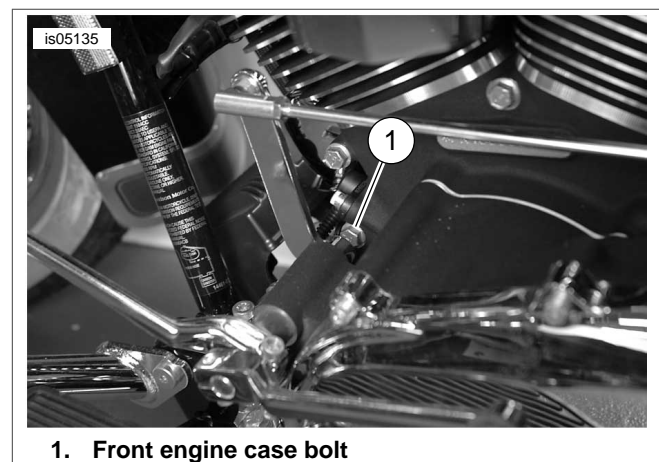

Figure 5. Mounting Point
6. Install 1/4 inch inside diameter (ID) flat washers (10) and 1/4-20 locknuts (18) on upper studs. Tighten finger tight.
7. See Figure 5. Remove front engine case bolt from engine. Install stud into engine case. Tighten stud to 15-19 ft-lbs (20.3-25.8 Nm) .